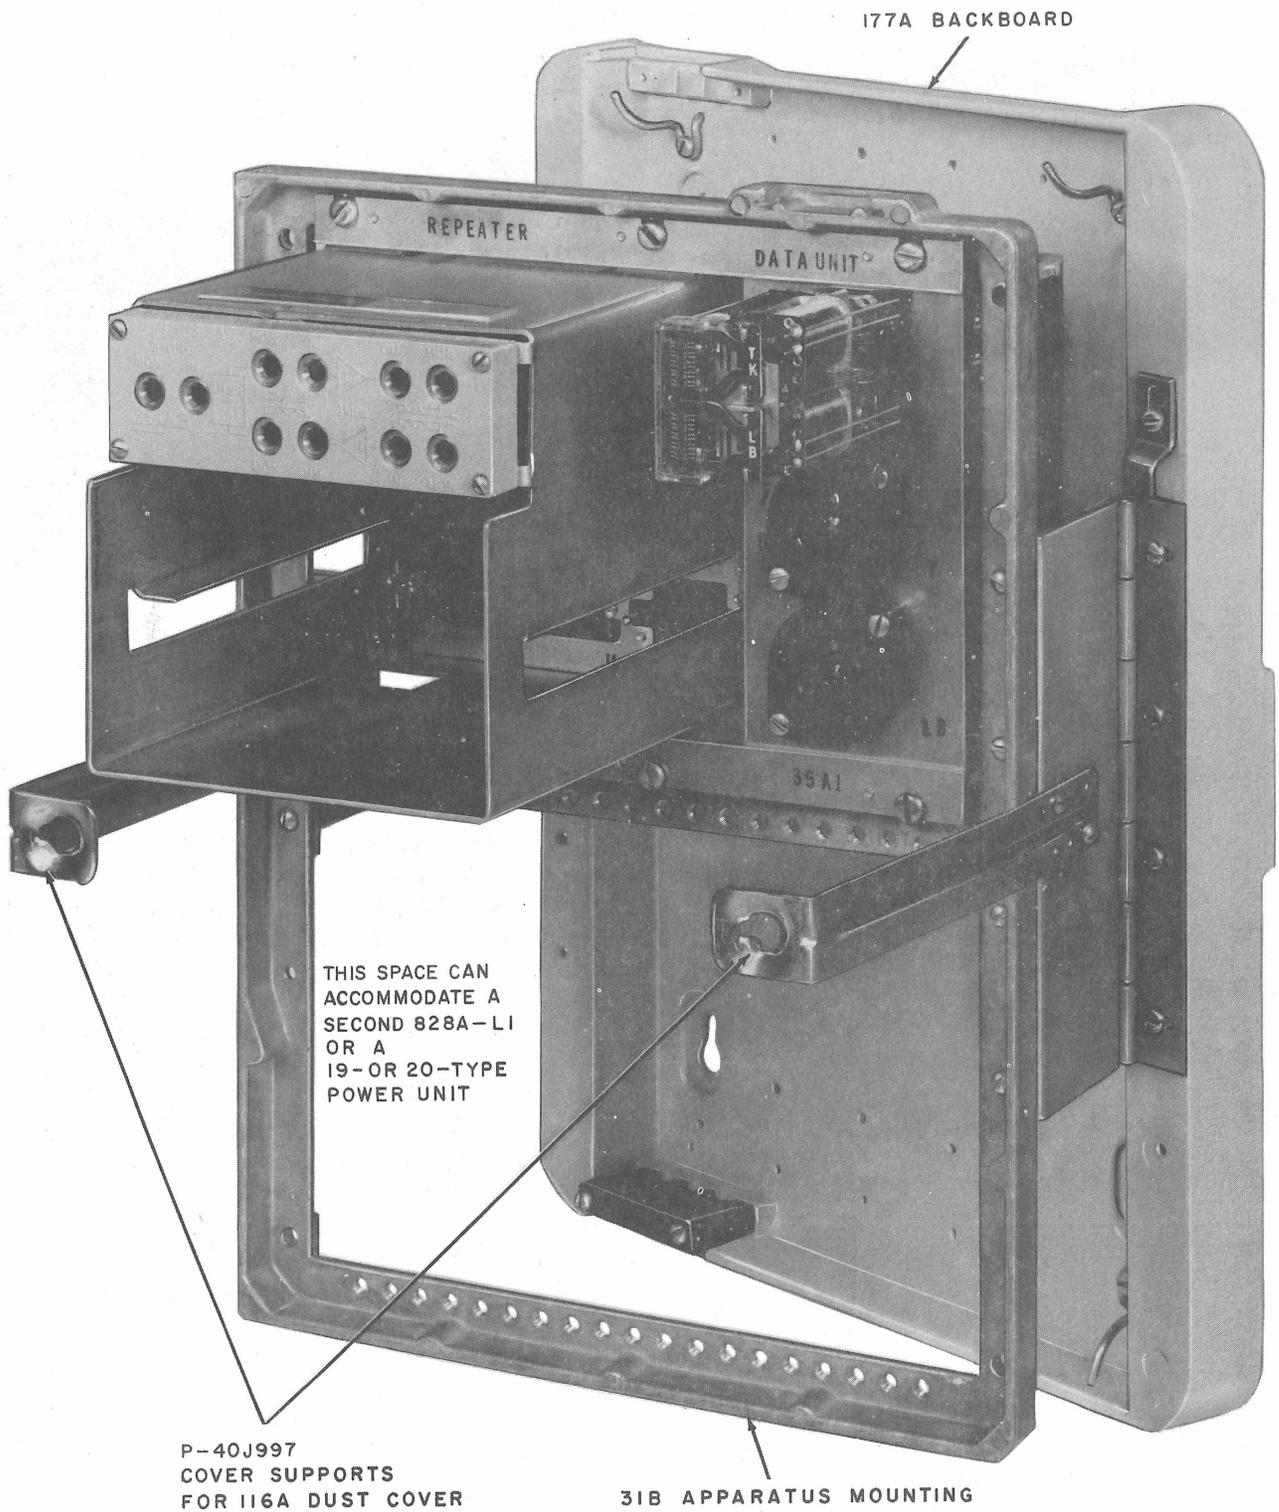

Fig. 3—Front View of DAS 828A-L1 (Series 1) Mounted on a 31B Apparatus Mounting—Shown Without Cover
2.05 DAS 828A-L1A, shown in Fig. 3, consists of a basic 828A-L1 wired and assembled on a 31B apparatus mounting. The mounting frame is hinged to a 177A backboard, providing access to the rear of the units. The package arrangement is completed by a light olive gray dust cover (116A).